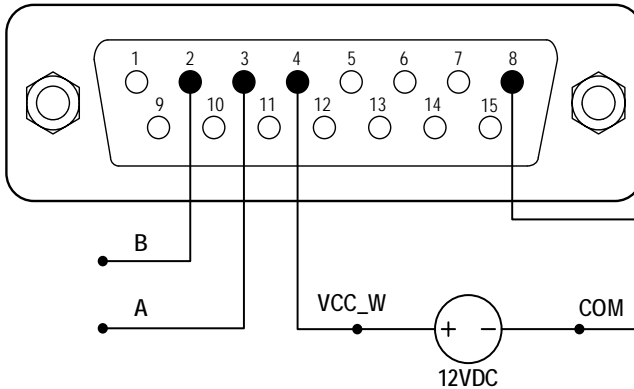

Figure 17. RS485 MODBUS Wiring
- 1) When the power is off, wire the DB15 connector as shown on Figure 17, and connect it to the DB15 port on the rear of the pump. External DC power source is recommend to avoid electrical interference.